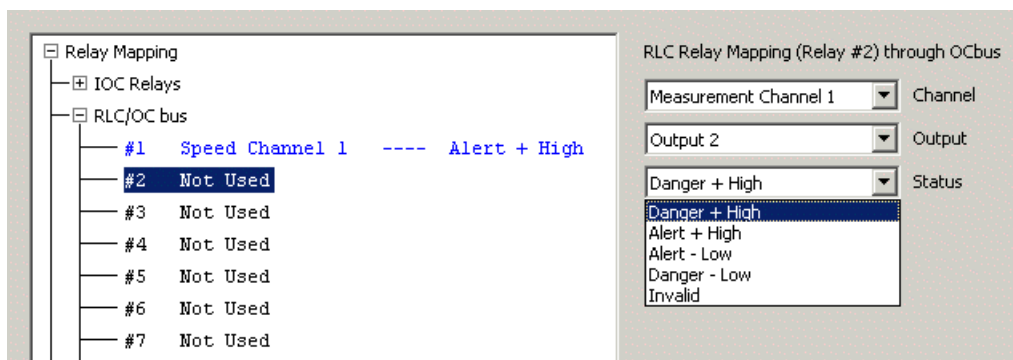

Figure 10-4: Example of attributing Relay 2 on the RLC16 card to the Danger+ alarm of Output 2 of Measurement Channel 1. The OC Bus is used to route the alarm.
- **Channel, Outputs** and **Status** (Figure 10-4)